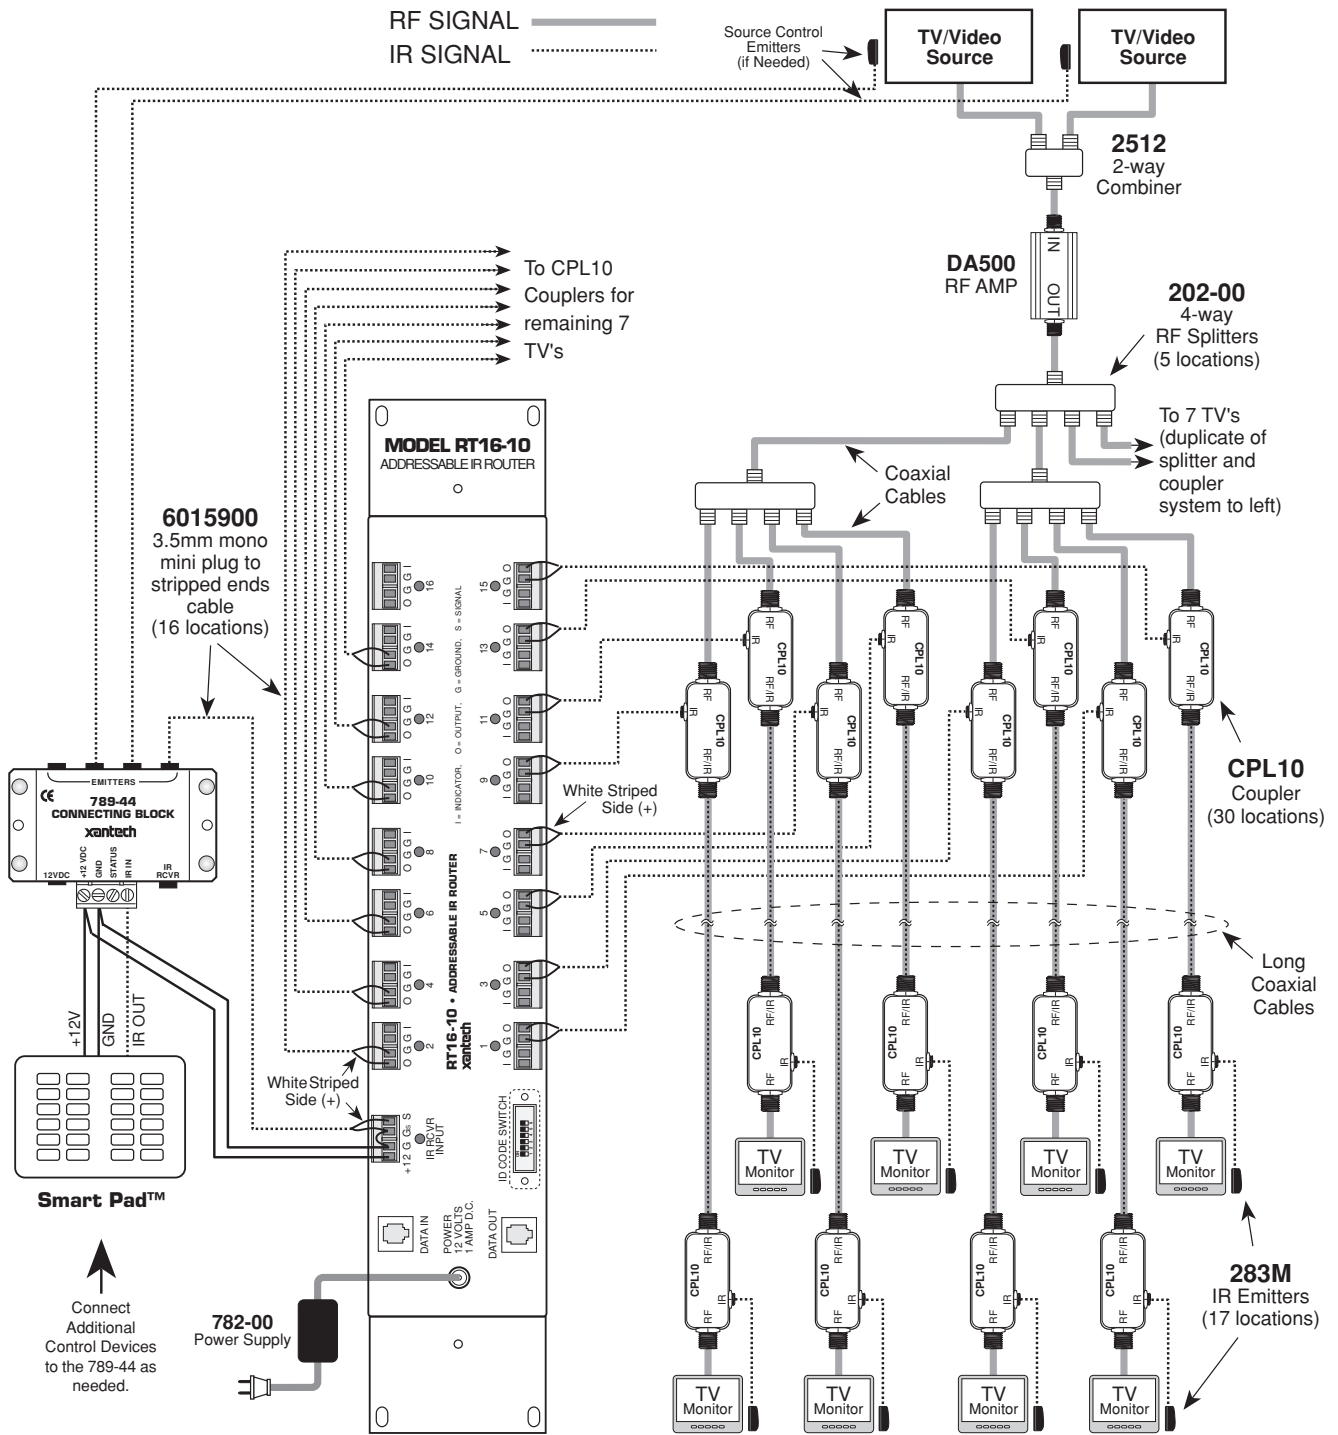

Fig. 7 Using the coaxial cables going to each TV to carry the IR Control Signals.
Fig. 7 shows an alternate installation method. In this example, the coaxial cables are used to carry the IR control signals to the emitters on 15 TV monitors, along with the RF signals. This eliminates the need to run 2-conductor wire to each TV.
2. Fig. 7 also illustrates the use of a Xantech 789-44 Connecting Block for control of the TV/Video sources as well as the TV Monitors. Note that the 789-44 is powered from the RT16-10.